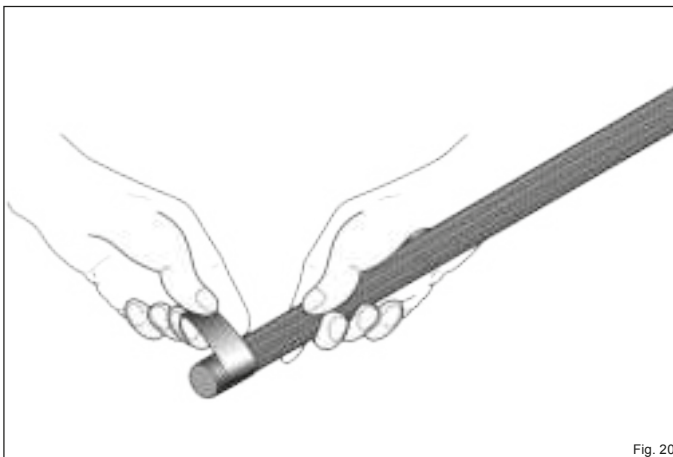
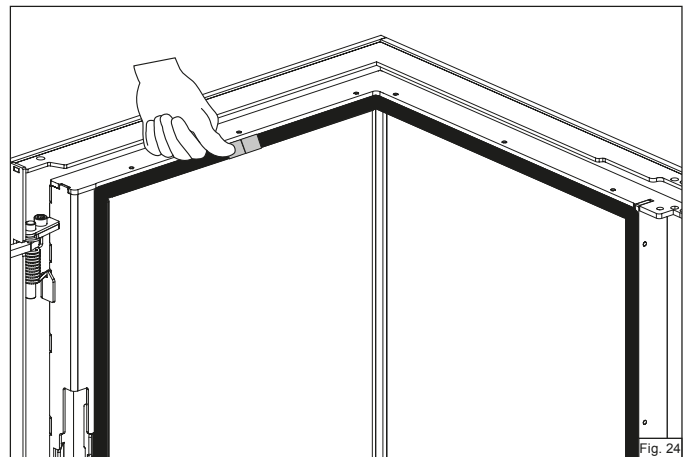

Fig. 20
Fig. 24
- ▶ Wrap approx. 3 cm of one end of the new seal with copper tape (Fig. 20).
- ▶ Also wrap this end in copper tape (Fig. 20) and push the seal into the rail (Fig. 24)